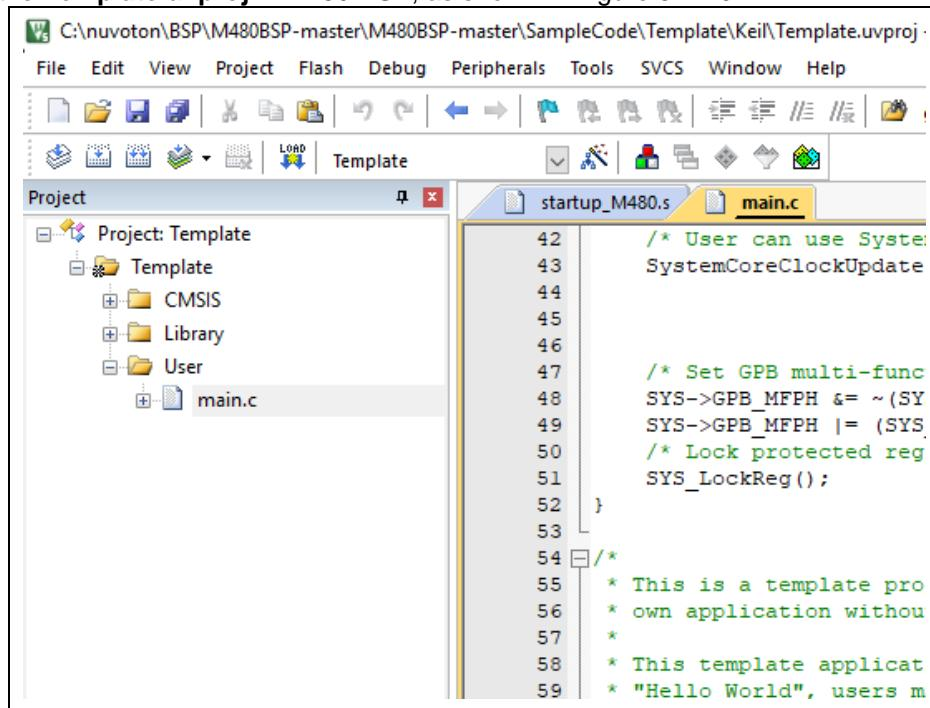

Figure 5.2-20 Open M480 project
- (9) Open the **Template.uvproj** in M480 BSP, as shown in Figure 5.2-20.